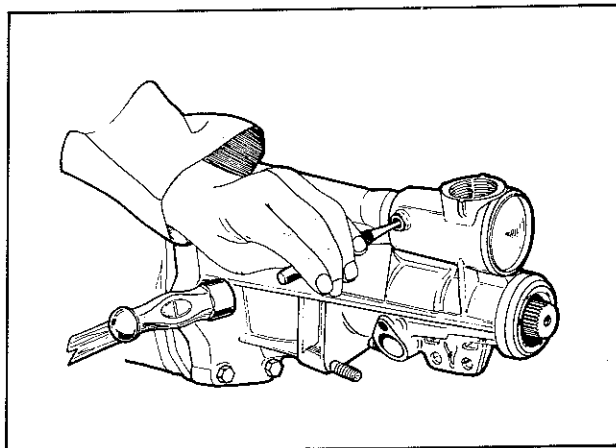

Fig. 4—Removing roll pin
- (1) For the removal of clutch control lever shaft and arm, refer Group 6 — Clutch.
- (2) Remove the two plastic cup plugs from the rear of extension housing.
- (3) Using a pin punch, remove the roll pin connecting the gearshift link and the gearshift rail, Fig. 4. Remove the reverse light switch.
- (4) Remove the extension housing, if necessary tap it lightly with a soft hammer to free it from the case.
- (5) Remove the clutch housing.
- (6) Remove the top cover assembly.